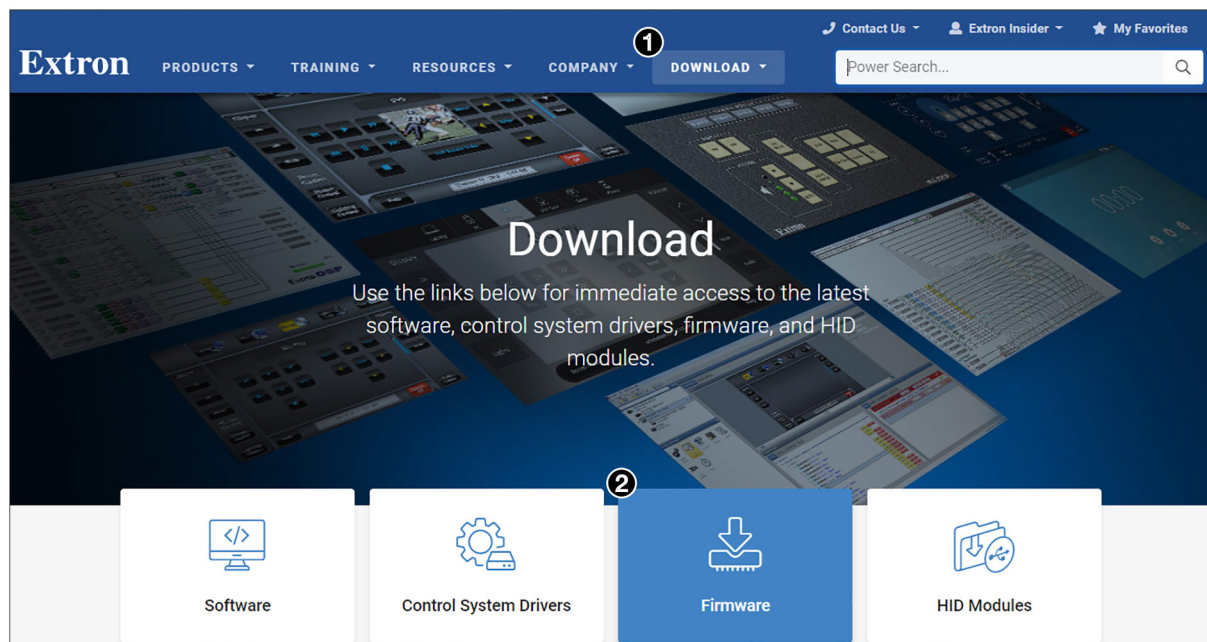

Figure 22. Firmware Button on Download Screen
Alternatively, click the **Download** tab (see figure 22, ①), then click the **Firmware** button (②).